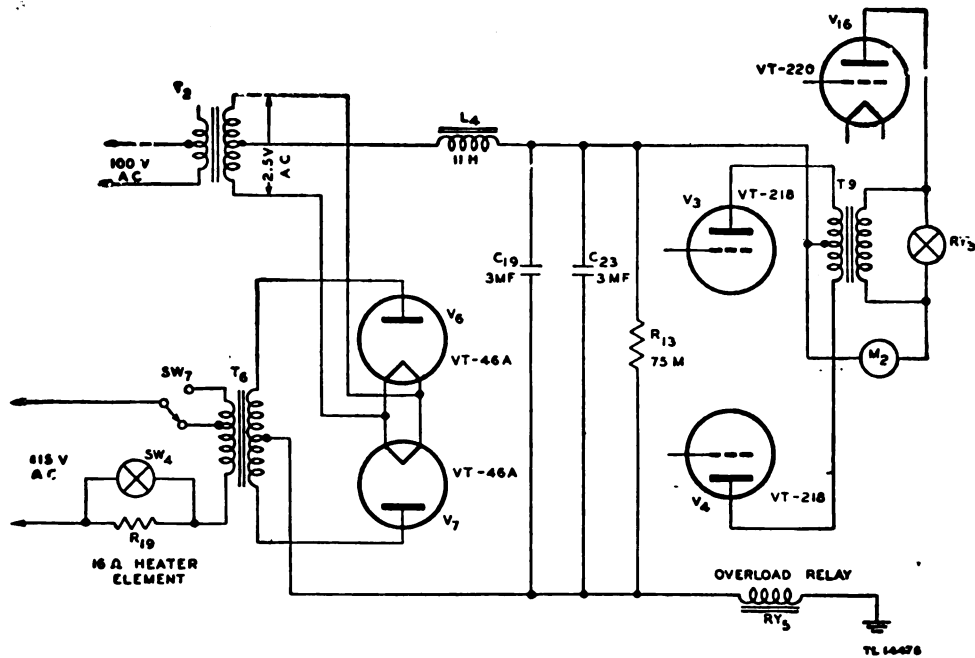

Figure 65. High-voltage power supply—functional diagram.
c. HIGH-VOLTAGE POWER SUPPLY (fig. 65). The high-voltage power supply furnishes d-c plate voltage for modulator tubes V_3 and V_4 , and p-a tube V_{16} . Tubes V_6 and V_7 (Tubes JAN-866A (VT-46A)) are connected in a full-wave rectifier circuit. Transformer T_2 furnishes filament current to the rectifier tubes; transformer T_6 furnishes the high a-c voltage to the rectifier plates. The rectified high voltage is applied to an L-section filter consisting of filter choke L_4 , and filter capacitors C_{19} and C_{23} in parallel. Resistor R_{13} , the bleeder resistor, is connected across the output of the power supply and serves to discharge capacitors C_{19} and C_{23} when the power is turned off. Switch SW_7 , the C.W.-PHONE switch, reduces the voltage applied to the plates of the rectifier tubes during phone operation. Switch SW_4 is the HIGH VOLTAGE PROTECT switch. When set to HIGH VOLTAGE PROTECT it connects resistor R_{19} (heater element) in series with one side of the primary of transformer T_6 to reduce the output voltage of the rectifier during tune-up
d. P. A. PLATE METER M_2 (fig. 65). P. A. PLATE meter M_2 is a 0- to 500-ma, d-c millimeter located on the front panel of the transmitter. Its purpose is to indicate the d-c plate current of p-a tube V_{16} . The meter is connected in the high-voltage plate lead to tube V_{16} , and is isolated from the radio frequency in the tank coil by r-f choke coil CH_4 and bypass capacitor C_{11} .